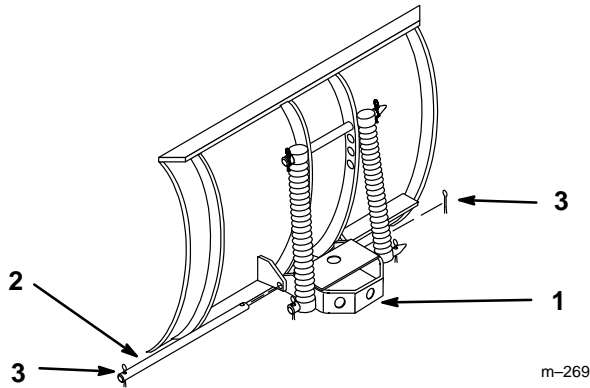

Figure 1
1. Lift and rotate channel and trip spring assembly so holes align with lower blade mounts. Slide rod through holes and secure with (2) 1/8 x 1" (26 mm) cotter pins (Fig. 1).